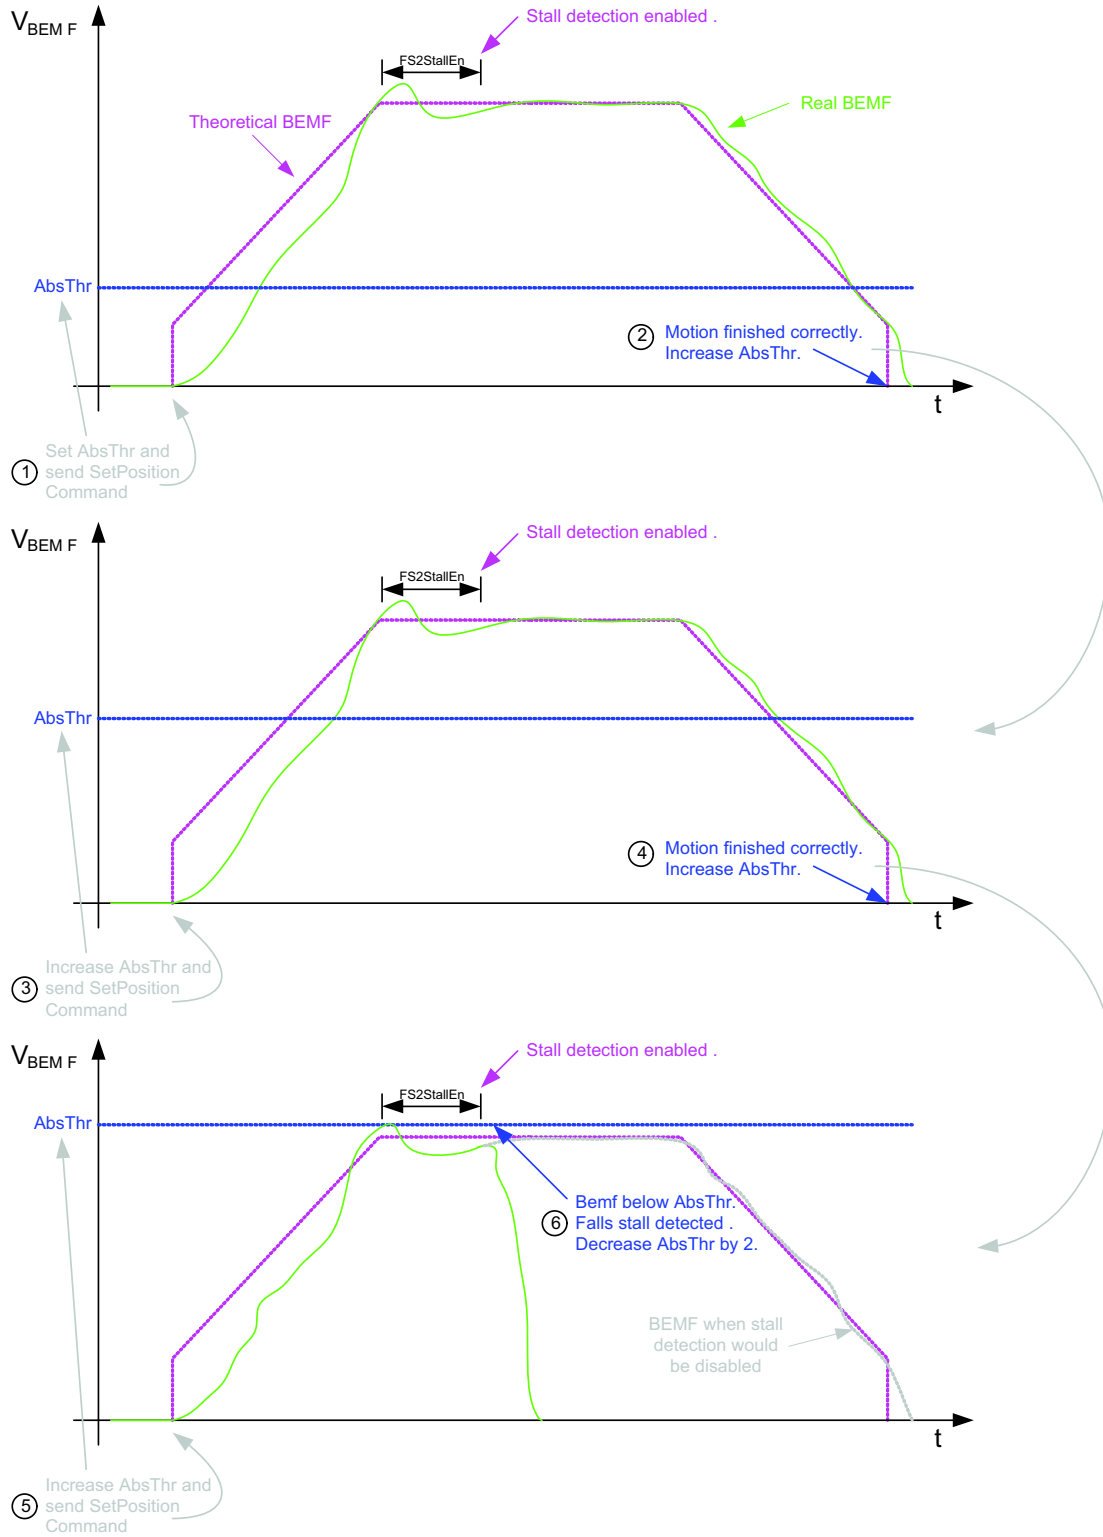

Figure 37. Define $AbsThr$ for a Non-Free Running Motor (End Positions)
- Step 4b: Set the AbsThr to the lowest value (0.5 V) and do a SetPosition. If the motion was completed correctly, increase AbsThr by one and repeat the SetPosition. Do this until a stall was detected without hitting an end position (= falls stall). If falls stall is detected, the AbsThr value is set too high. Decrease the (hexadecimal) value by 2 (if possible) to have a good AbsThr setting. Figure 37 gives a better view on this.